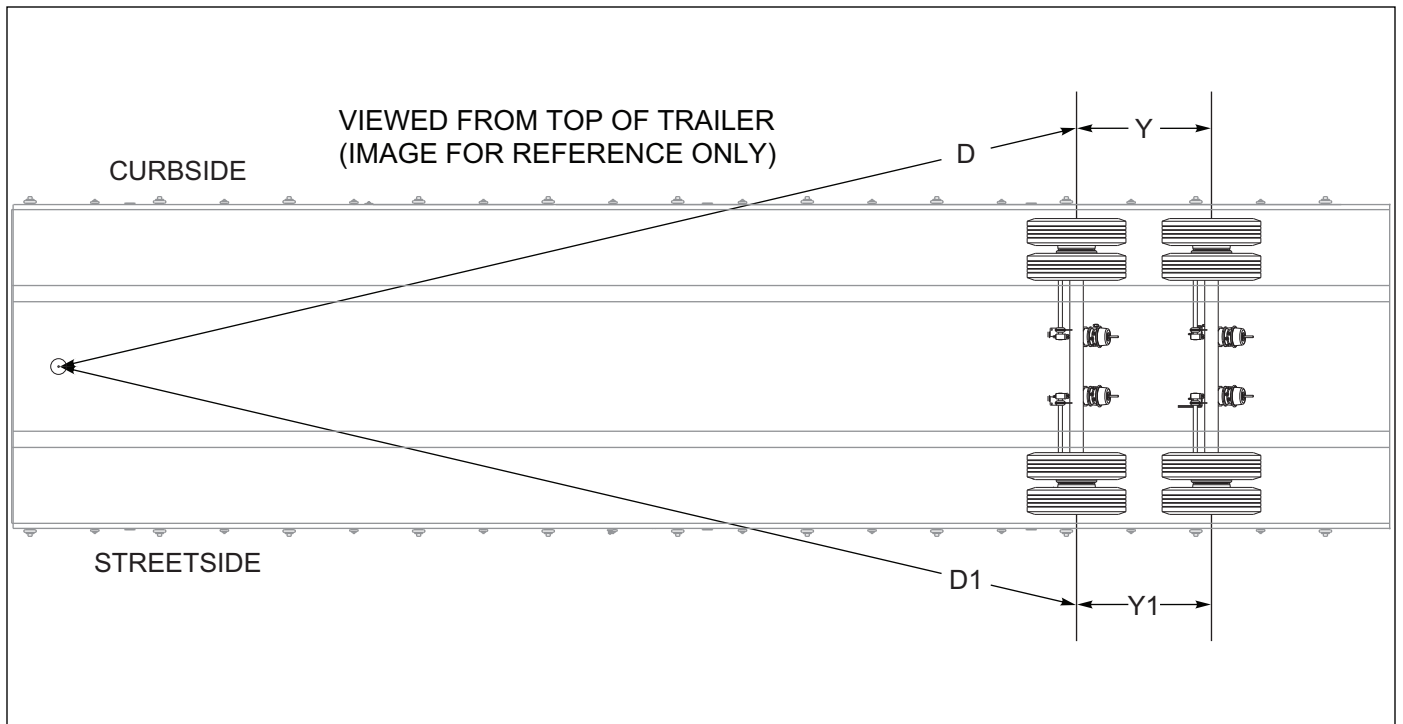

Figure 4-12: Checking Axle Alignment
5. Measure **Curbside (D)** from the plumb bob to the 1st axle center. Measure **Streetside (D1)** from the plumb bob to the 1st axle center. **Curbside (D)** should be about 1/8 in (3.18 mm) shorter than **Streetside (D1)**, See Figure 4-12.
2. Measure from 1st axle center to the trailer 2nd axle center on the curbside then the streetside. Measurements should be the same. Use (Y) and (Y1) as reference, **See Figure 4-12.**